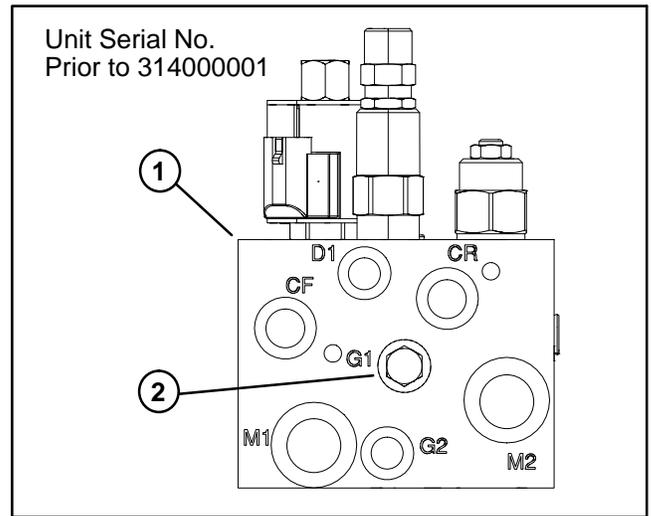

Figure 30
3. Remove plug from hydraulic manifold port (G1) and install a test fitting and cover (Fig. 30 and 31).